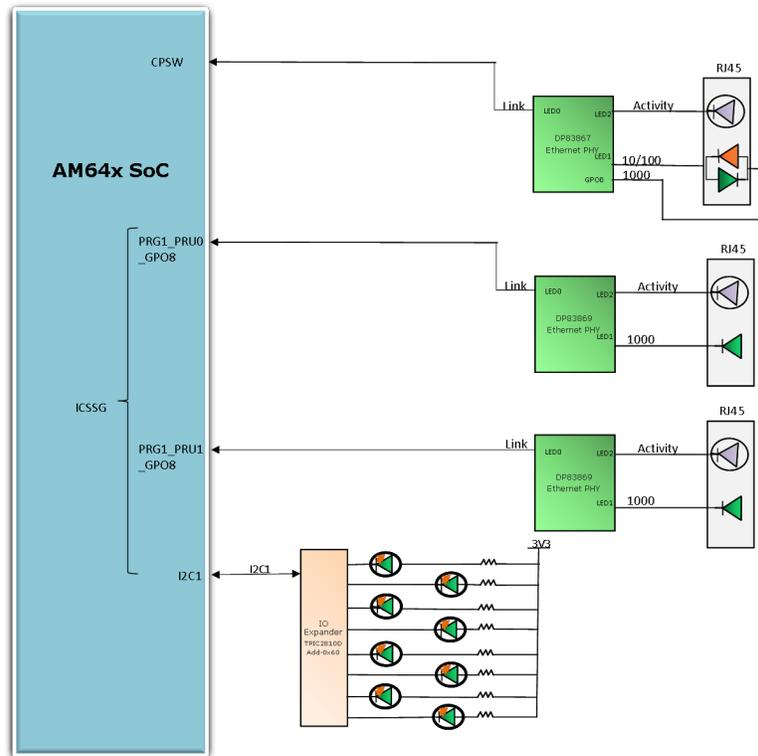

Figure 2-24. AM64x/AM243x EVM Ethernet Interface LED
**LED\_1:** By default, this pin indicates that 1000BASE-T link is established. This setting can be changed to Auto negotiate to 10/100Mbps using the strap resistors. Additional functionality is configurable via LEDCR1[7:4] register bits in the DP83867 device and LEDS\_CFG1[7:4] register bits in the DP83869 device. LED\_1 is also a strap pin, which is having internal pulldown resistor to set RGMII TX Clock Skew in the DP83867 device and to select Auto Negotiation mode in the DP83869 device. Since this pin is set to active on both the devices, this results in dim LED lighting when LED is driven directly. Therefore, a MOSFET is used to drive LED, as shown in Figure 2-24.
**GPIO1:** In the DP83867 PHY, the GPIO can be configured to function as LED3 through GPIO Mux Control Register 1 (GPIO\_MUX\_CTRL1) and the LED configuration can be set by programming LEDCR1 register. This is also a strap pin which is used to set fast link drop (FDP), and is currently disabled. In the DP83869 PHY, the GPIO can be configured to function as LED\_GPIO(3) through GPIO Mux Control Register (GPIO\_MUX\_CTRL) and the LED configuration can be set by programming LEDS\_CFG1 register. This is also a strap pin which is used to select RGMII to copper mode of operation on startup. This can be changed to MII mode using the MDC & MDIO pin to update the GEN\_CFG1 register – 0x9 (gigabit Ethernet advertising must be disabled when using MII mode as the PHY does not link up at 1000Mbps speed)
The EVM card has multiple LED to indicate status of Ethernet link, Ethernet Activity and Ethernet Speed Set. Figure 2-24 shows the LED used for ICSSG PRG1 Ethernet activity and CPSW Ethernet activity. Additionally, there are eight LED's that are connected to an IO Expander, which is controlled by the SoC via the I2C1 port. These eight LED can be toggled based on the user application.